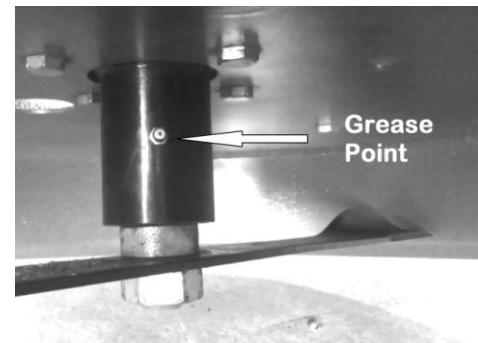

FIGURE 5
2. Do not put hands or feet near or under rotating parts. Stay clear Of discharge area while the engine is running (Fig.5).